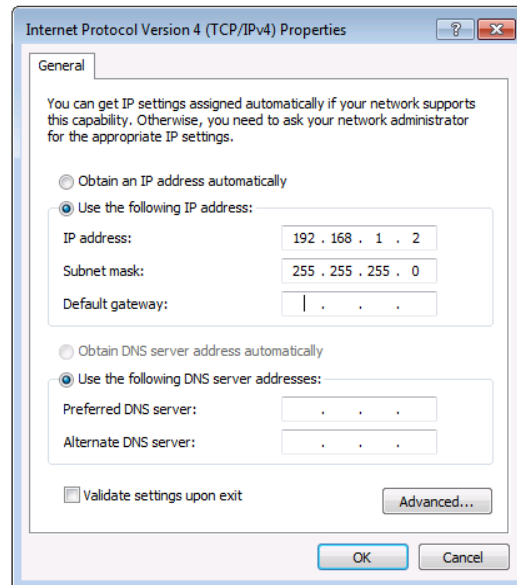

Figure 12: Internet Protocol Properties Window
6. Select **Use the following IP Address** for static IP addressing and fill in the details as shown in (Figure 12).